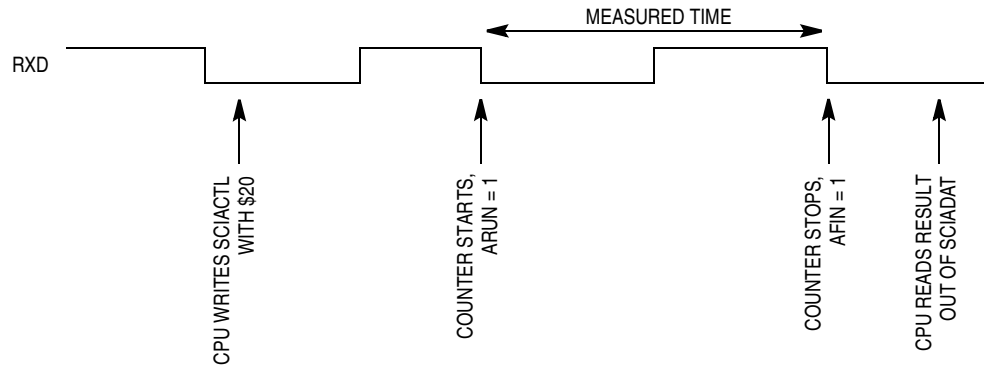

Figure 14-21. Bit Time Measurement with ACLK = 0
1. **ACLK = 0** — The counter is clocked with one half of the bus clock. The counter is started when a falling edge on the RxD pin is detected. The counter will be stopped on the next falling edge. ARUN is set while the counter is running, AFIN is set on the second falling edge on RxD (for instance, the counter is stopped). This mode is used to recover the received baud rate. See Figure 14-21.